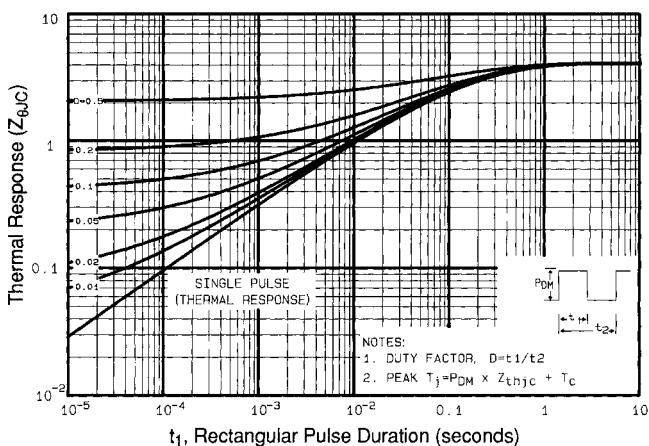

Fig 11. Maximum Effective Transient Thermal Impedance, Junction-to-Case
① Repetitive rating; pulse width limited by max. junction temperature (See Figure 11)
③ $I_{SD}\leq 4.4\text{A}$, $di/dt\leq 90\text{A}/\mu\text{s}$, $V_{DD}\leq V_{(\text{BR})\text{DSS}}$, $T_J\leq 150^\circ\text{C}$ ⑤ $t=60\text{s}$, $f=60\text{Hz}$ ② $V_{DD}=50\text{V}$, starting $T_J=25^\circ\text{C}$, $L=13\text{mH}$